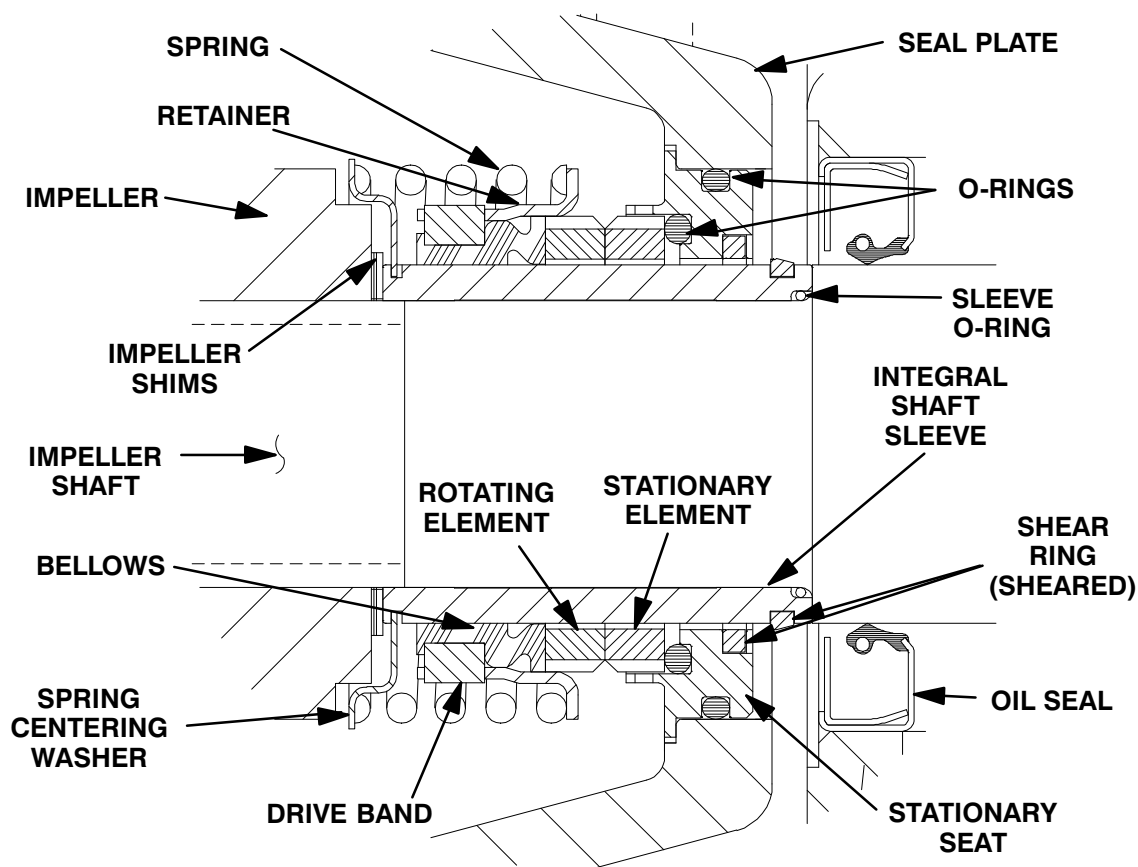

Figure 9. 46513-151 Cartridge Seal Assembly
To ease installation of the seal, lubricate the shaft sleeve O-ring (29) and the external stationary seat O-ring with a very **small** amount of light lubricating oil. See Figure 9 for seal part identification.